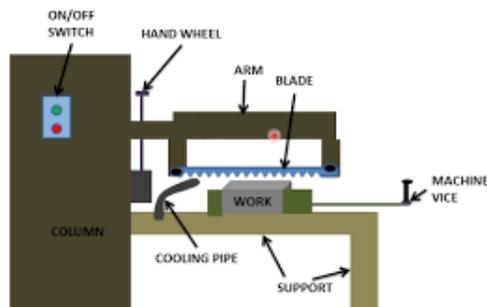

Figure Saw-6: close distance between the blade and workpiece surface
7. As in figure Saw-6, close the blade to the workpiece surface.